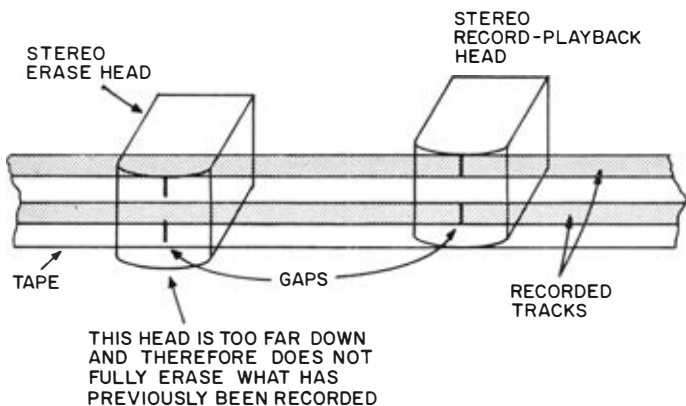

Fig. 516. *Mispositioned erase head.*
The erase head may be responsible in one of several ways: (1) The head may be defective. (2) Oscillator current supplied to the head may be insufficient. (3) The oscillator frequency may be too high for the head to operate efficiently. (4) The erase head may be misaligned with respect to the record head, so that the gaps of the two heads don't span the same portion of the tape (Fig. 516).